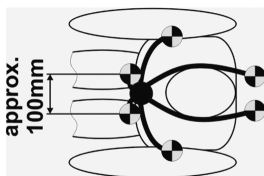
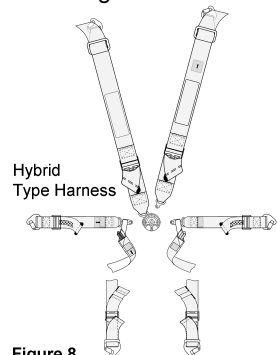

Figure 2
Figure 8
3. **Hybrid Belt** – Six- or seven-point system for automobiles with an upright OR semi-reclined seating position. See Figure 8 for belt layout. Figures 2 and 3 show upright/forward mounting. Figures 5 and 6 show reclined/rearward mounting. Consists of a two-inch or three-inch lap belt, three-inch shoulder straps (two-inch allowed with HANS), and two, approximately two-inch, leg straps.